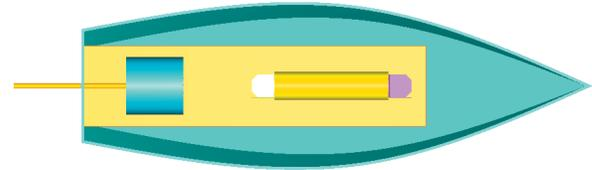

Fig. 39
Step 9. Key-in **4.4, 1.8** and press ENTER and **4.4, 1.2** and press ENTER, **Fig. 39**.